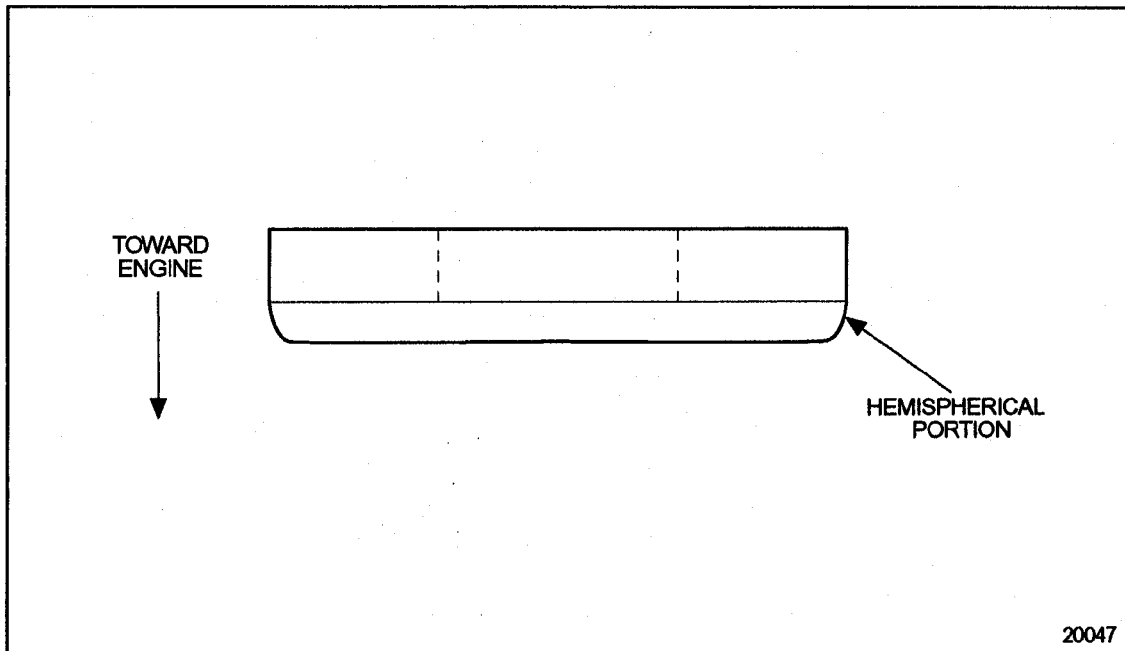

Figure 2-11 Hold-down Crab Washer Installation
10. Install the hold-down crab, hemispherical crab washer (flat surface up against bolt) and hold-down bolt to the injector. See Figure 2-11. Ensure the clamp does not interfere with the injector spring or valve springs.